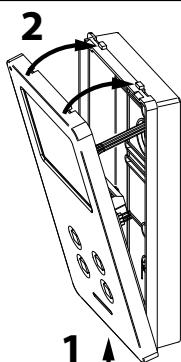

Fig. 7
6. Once testing is complete and all the necessary adjustments are made, close the unit as shown in **Fig. 7**: first hook in the bottom and then the upper part until you hear a "CLICK!".